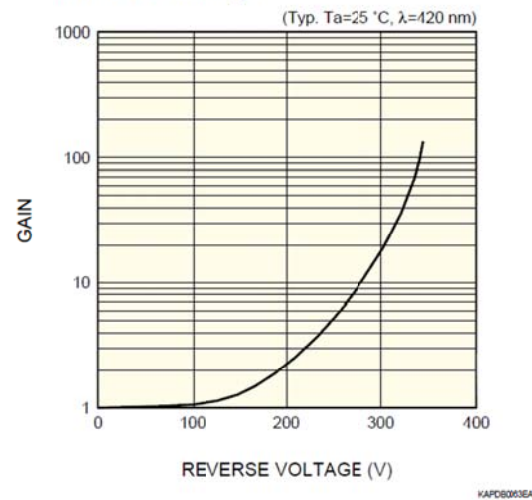

Figure 6. Detector typical Quantum Efficiency (QE) and Gain.
The detector bias voltage determines the internal gain of the pixels. The gain as a function of the applied voltage is shown together with the Quantum efficiency (QE) in Figure 6. Besides the gain the bias voltage also changes the detector capacitance, it decreases with increasing voltage. As all pixels are operated from a common bias voltage at low voltage setting the crosstalk increases between channels which results in an increase of the noise and its coherency between channels. Below about 150 V the 32 channel amplifier system oscillates between minimum and maximum output, therefore no measure-